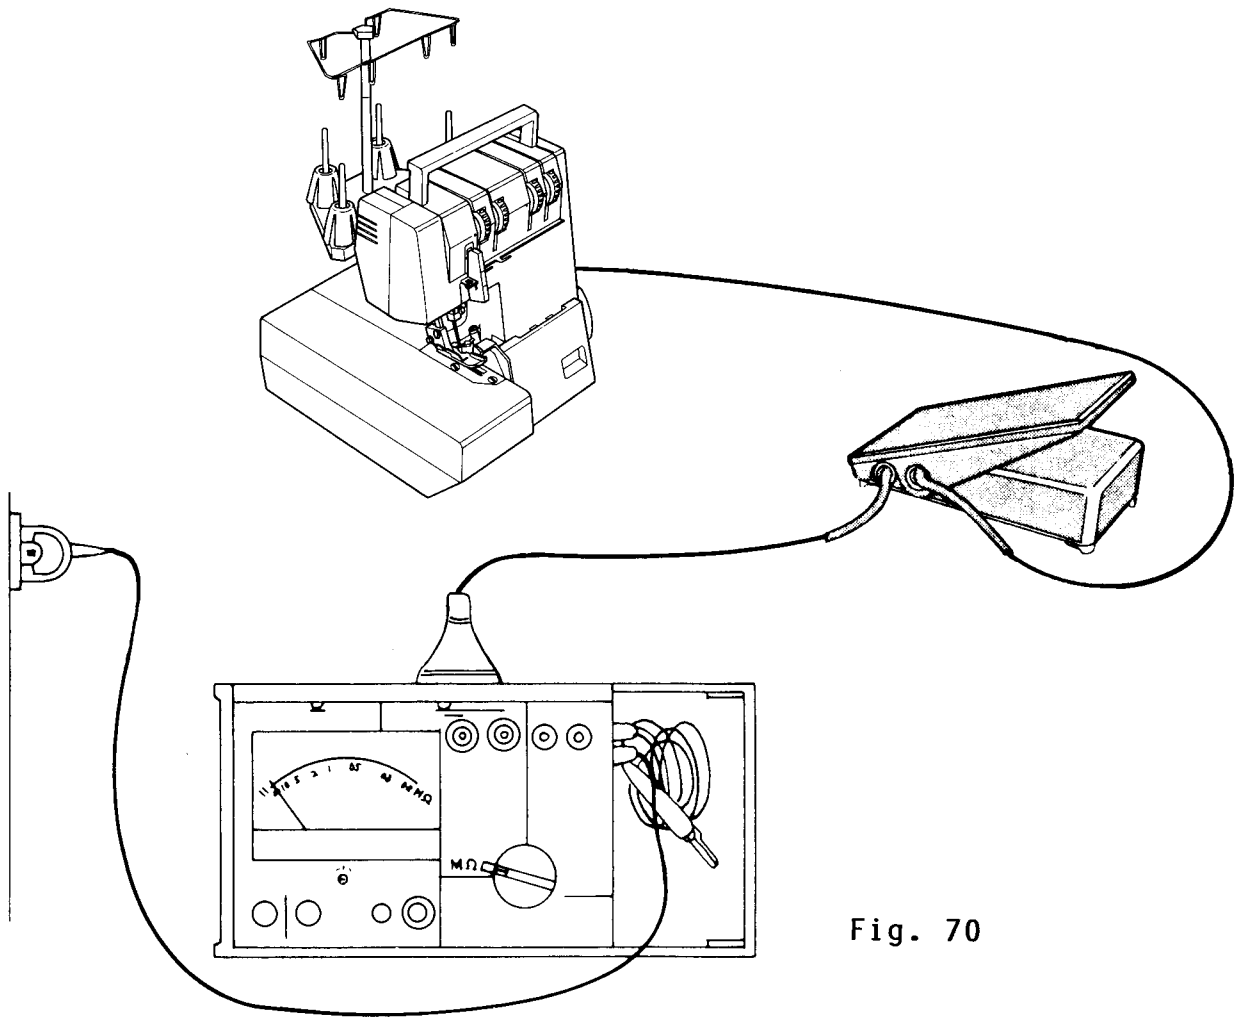

Fig. 70
- * Insert sewing machine plug in right socket (**Fig. 70**).